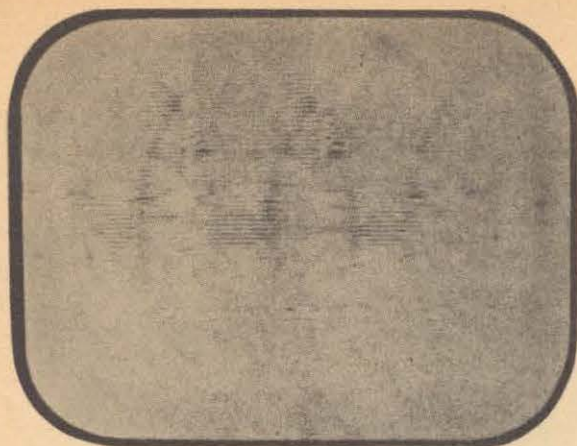
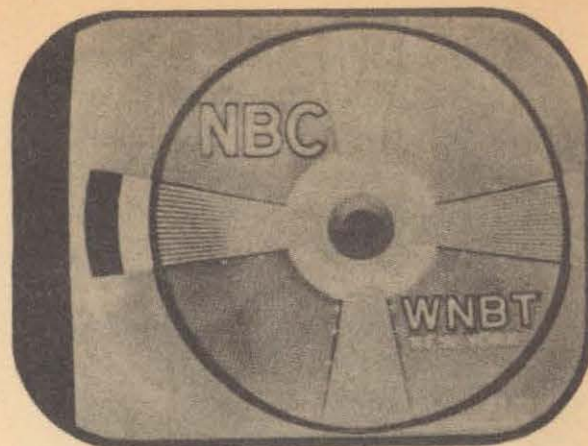
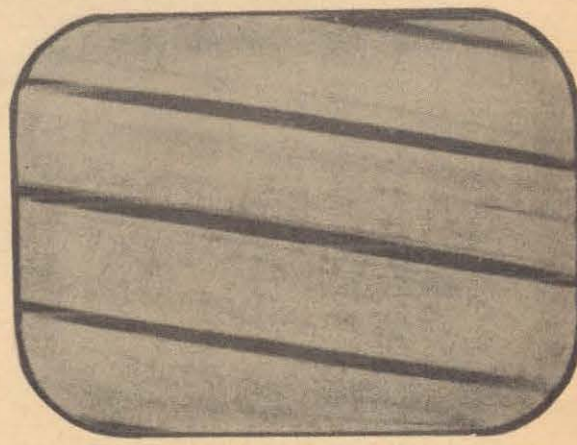

Fig. 9 Horizontal Hold Control Misadjusted
Fig. 10 Horizontal Hold Control Misadjusted
Fig. 12 Horizontal Oscillator Frequency Misadjusted
**HORIZONTAL HOLD ADJUSTMENT.** Figures 9 and 10 illustrate the effect on the receiver test pattern of two degrees of misadjustment of the horizontal hold control. The actual
appearance of the image cannot be reproduced in a printed illustration since the image is in continual motion until a stable lock-in has occurred. When the hold control is adjusted to such a position that the oscillator is nearly in sync with the signal pulses, the image will first appear as a series of diagonal bars similar to those of Figure 12, which is an illustration of horizontal oscillator frequency misadjustment. As synchronism is approached more closely, the image will appear as in Figure 9 and then start to lock-in as in Figure 10.